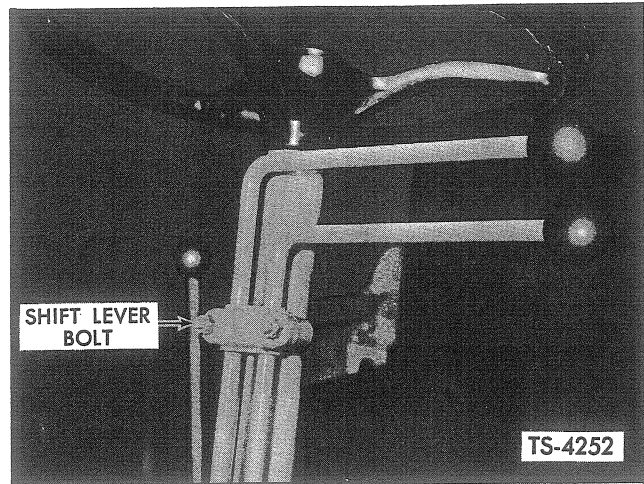

Fig. 23. Tighten Shift Lever Mounting Bolts
1. Check and tighten U-bolts holding shift lever support plates to steering column. See Figure 23. These bolts should be snug. Support plates are keyed into steering column which prevents their rotation.